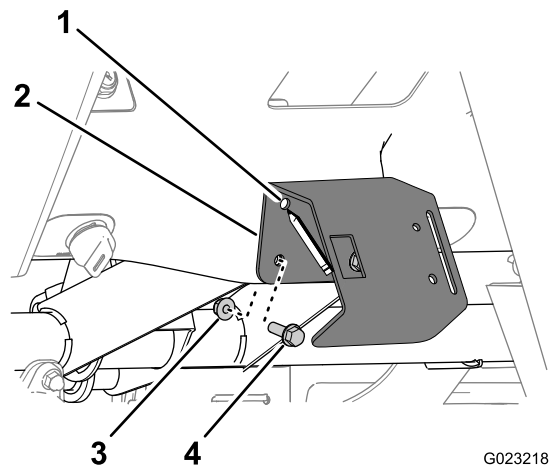

Figure 17
3. Secure the hand-throttle bracket to the dash panel with the 3 flange bolts (5/16 x 1 inch) and 3 flange nuts (Figure 17).